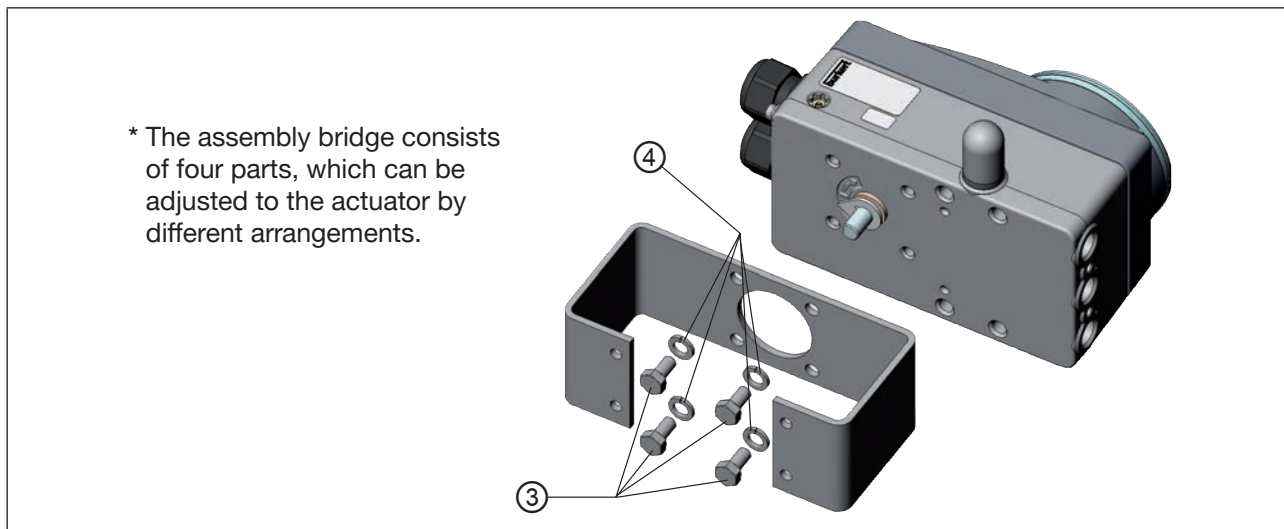

Figure 16: Attaching the assembly bridge (schematic representation)
- Attach the assembly bridge by 4 hexagon bolt ③ and circlips ④ to Type 8792/8793 (see "Figure 16").